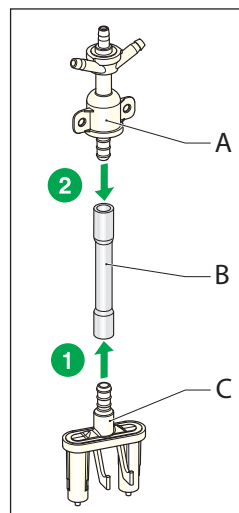

Fig. 5
- 1 Reassemble parts B and C. (Fig. 5)
- 2 Reassemble parts A and B. (Fig. 5)